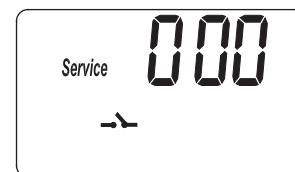
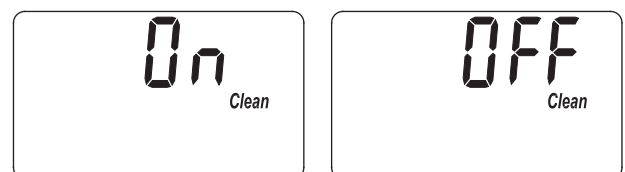
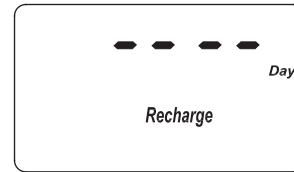
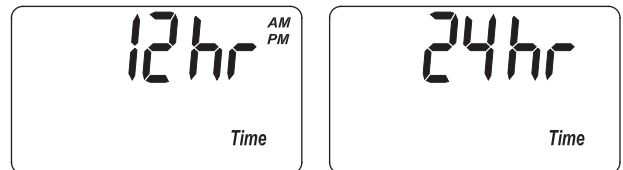

FIG. 37
FIG. 38
FIG. 40
FIG. 41
1. Press and hold the PROGRAM button until the screen in Figure 37 is displayed. Once in this display, press the PROGRAM button twice and one of the two displays in Figure 38 is shown.
1. Press and hold the PROGRAM button until the screen in Figure 37 is displayed. Once in this display, press the PROGRAM button three times and the display in Figure 39 is shown.
1. Press and hold the PROGRAM button until the screen in Figure 37 is displayed. Once in this display, press the PROGRAM button four times and the display in Figure 40 is shown.
1. Press and hold the PROGRAM button until the screen in Figure 37 is displayed. Once in this display, press the PROGRAM button five times and one of the two displays in Figure 41 is shown.